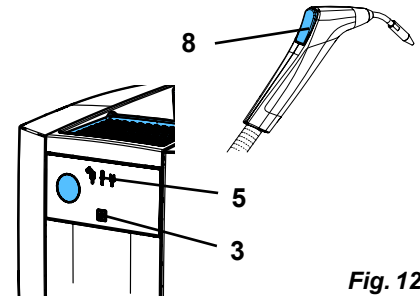

Fig. 12
- ◆ The "Heating / Ready for operation" indicator (5, Fig. 12) is off.